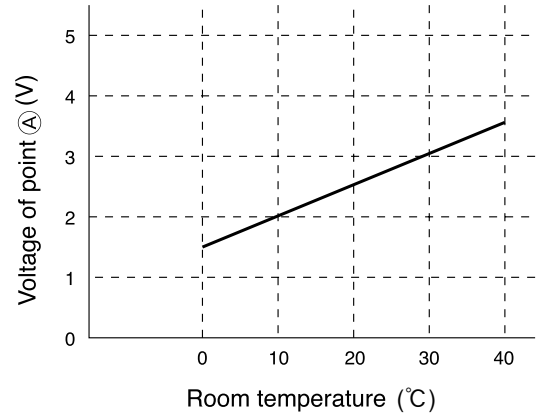

Fig. 3-2
According to room temperature, the voltage of point ① becomes as it is shown in Fig.3-2.